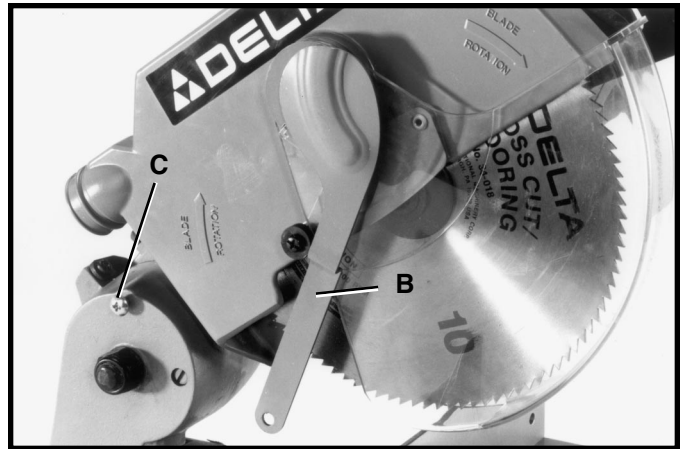

Fig. 3
2. The cuttinghead will then move to the up position and the lower blade guard link (B) Fig. 3, will hang freely in the down position, as shown.
3. Remove special screw (C) Fig. 3, from the pivot bracket.